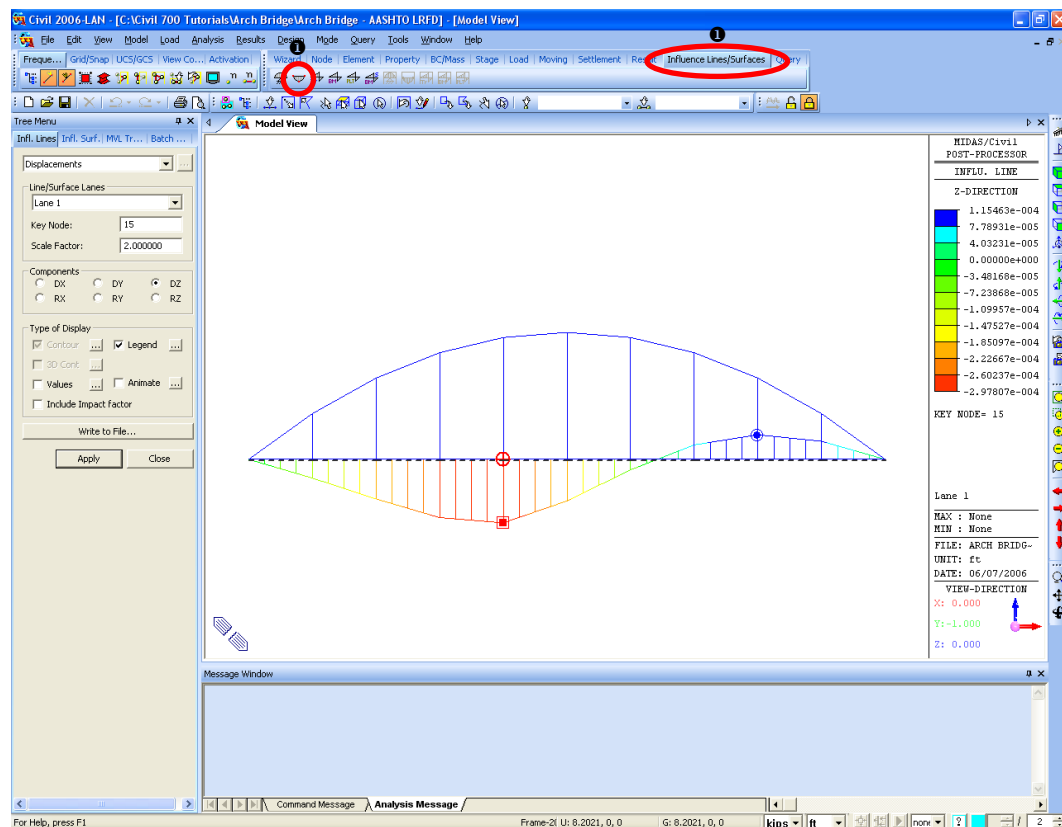

Figure 4.31 Deflection Influence Line
Figure 4.31 shows the deflection influence line.
2. Click  **Displacements** on the *Influence Lines/Surfaces* tab in the toolbar (Figure 4.31 ①).